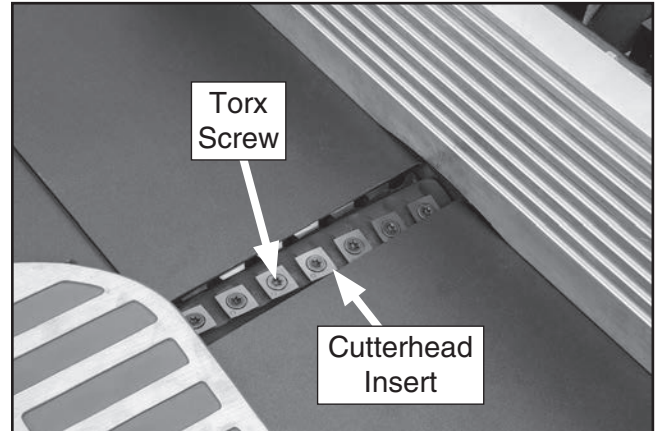

Figure 33. Location of cutterhead inserts and Torx screws.
6. Remove any sawdust or debris from head of insert, Torx screw, and surrounding area (see **Figure 33**).